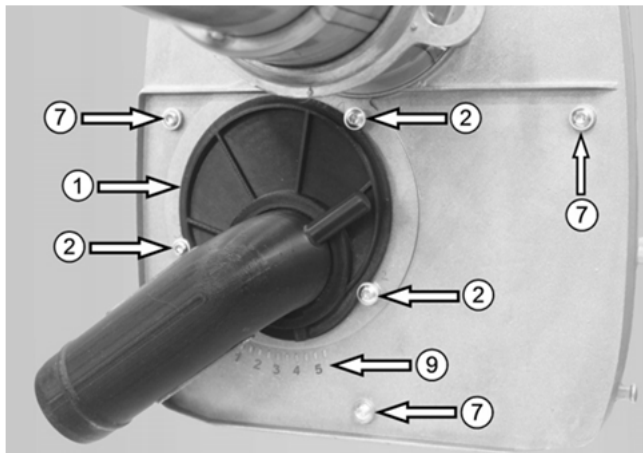

Abb. 4: Montiertes Anschluss-Stück RLU
- ➔ Remove the three locking screws ⑥ from the air intake nozzle.
- ➔ Install the three locking screws ⑥ in pos. ⑦ (see also Fig. 4).
- ➔ Definitely keep the air intake nozzle ⑧ in the burner housing.